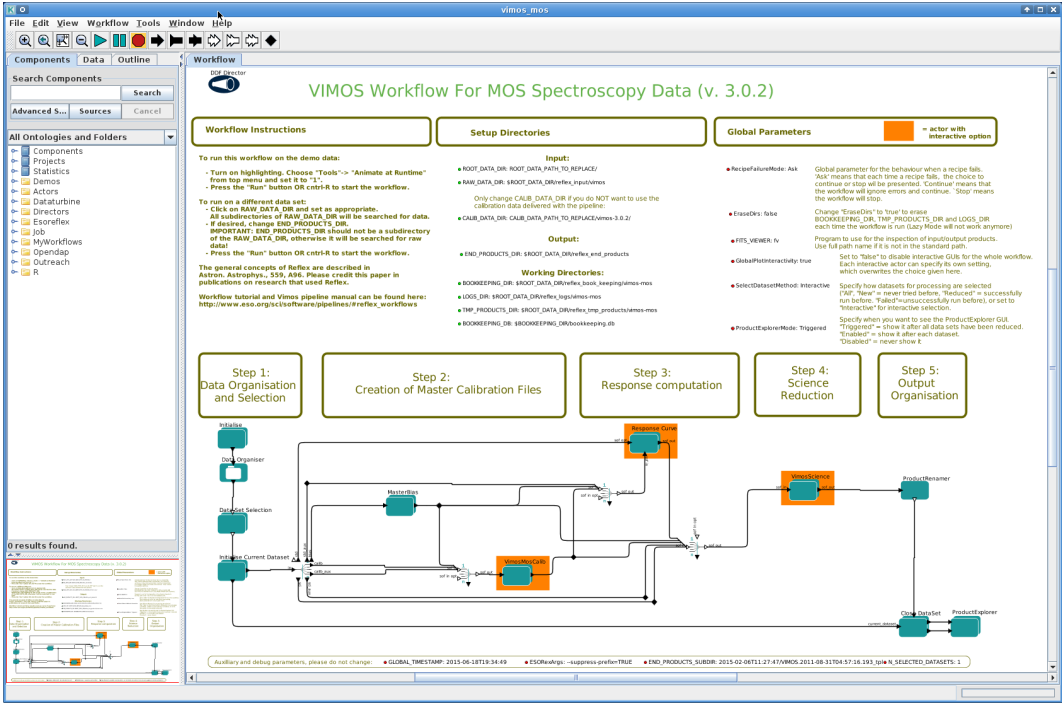

Figure 4.2: VIMOS/MOS workflow general layout.
2. Now open the VIMOS workflow by clicking on **File** -> **Open File**, selecting first `vimos-3.1.0` and then the file `VimosMos.xml` in the file browser. You will be presented with the workflow canvas shown in Figure 4.2. Note that the workflow will appear as a canvas in a new window.